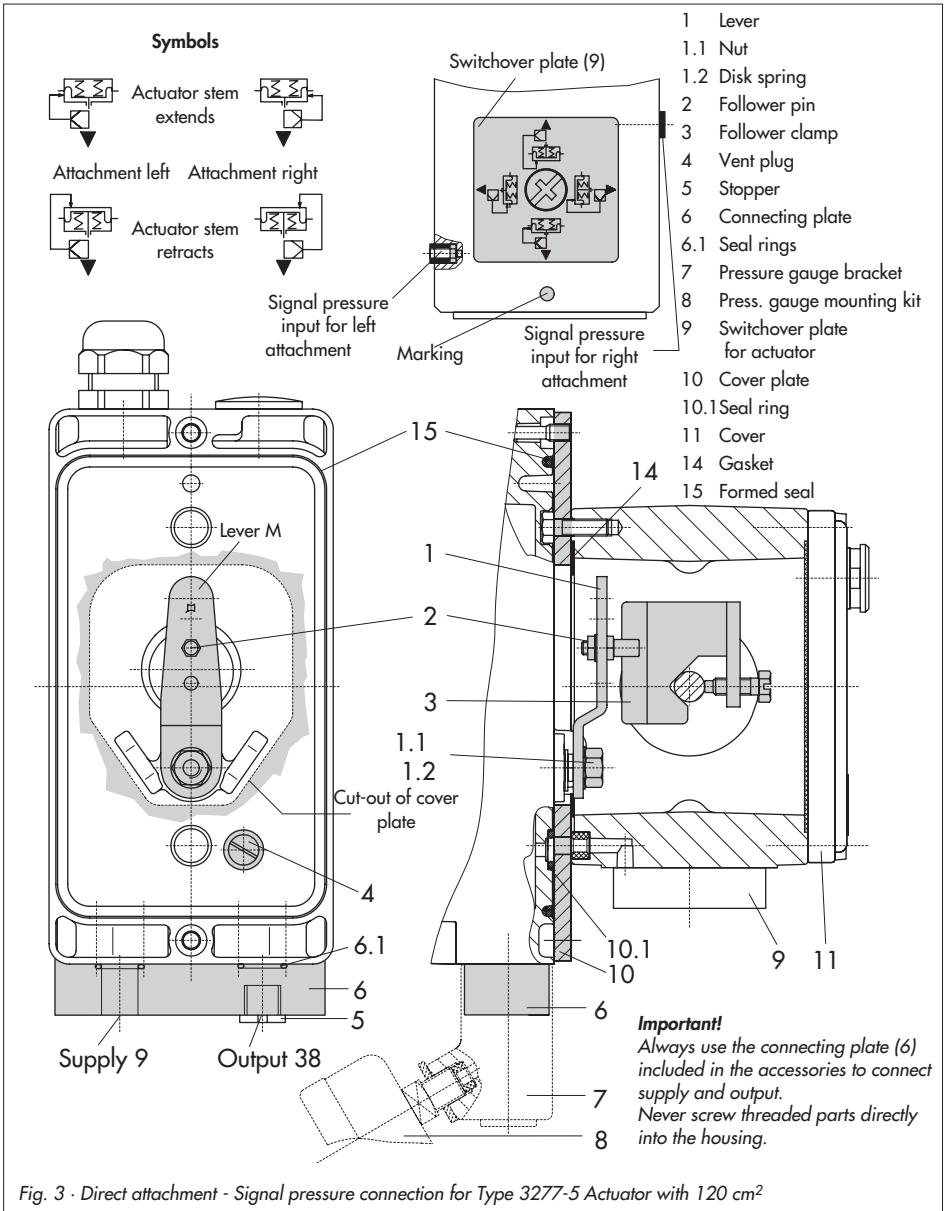

Fig. 3 · Direct attachment - Signal pressure connection for Type 3277-5 Actuator with 120 cm²
1. Mount connecting plate (6) or pressure gauge bracket (7) with pressure gauges onto the positioner, making sure both seal rings (6.1) are seated properly.
2. Remove vent plug (4) on the back of the positioner and close the signal pressure output "Output 38" on the connecting plate (6) or on the pressure gauge bracket (7) with the stopper (5) included in the accessories.
3. Place follower clamp (3) on the actuator stem, align and screw tight so that the mounting screw is located in the groove of the actuator stem.
4. Mount cover plate (10) with narrow side of the cut-out opening (Fig. 3, left) point-